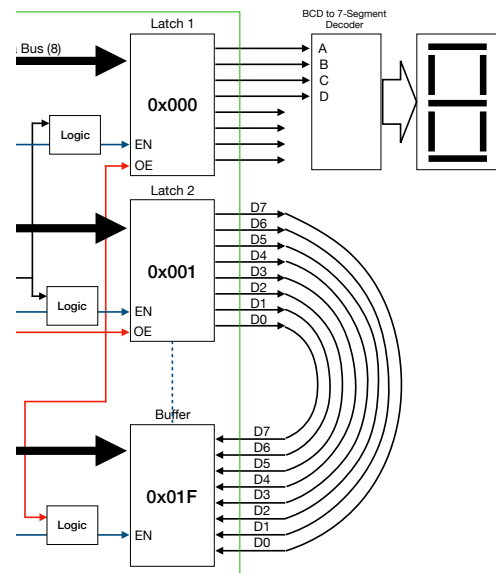

Figure 3. I/O Example
- Read from Memory (RM)
3. Based on the IO configuration in Fig. 3, write an assembly program that will send data to latch with address 0x001 and subsequently read buffer with address 0x01F. Using the SWAP (part 1) and WM instruction, move the read data from I/O to memory address 0x406. Verify the data by reading back memory address 0x406 using the RM instruction. This will demonstrate the output write and input read. Write your code using the semantics similar to the assembly code in Exercise 4. Convert the code to machine code and write to the memory using the method in part 2, section k. Test your program and validate it using the following example:
Write the following function in your code to simulate the I/O connection in Fig. 3.
- Assuming that a 7-segment display with a BCD to 7-segment decoder (see Fig. 3) is connected to a latch (0x00), write an assembly code that will display the value of a decade count-down counter. The code for the 7-segment decoder and display can be downloaded in the activity page in Canvas. Copy the function *SevenSegment()* to your code. Call the *SevenSegment()* every time a write to I/O (WIO) is performed. The function will display the corresponding data on latch at address 0x000. The program will count down from 9 to 0 once, then terminates.